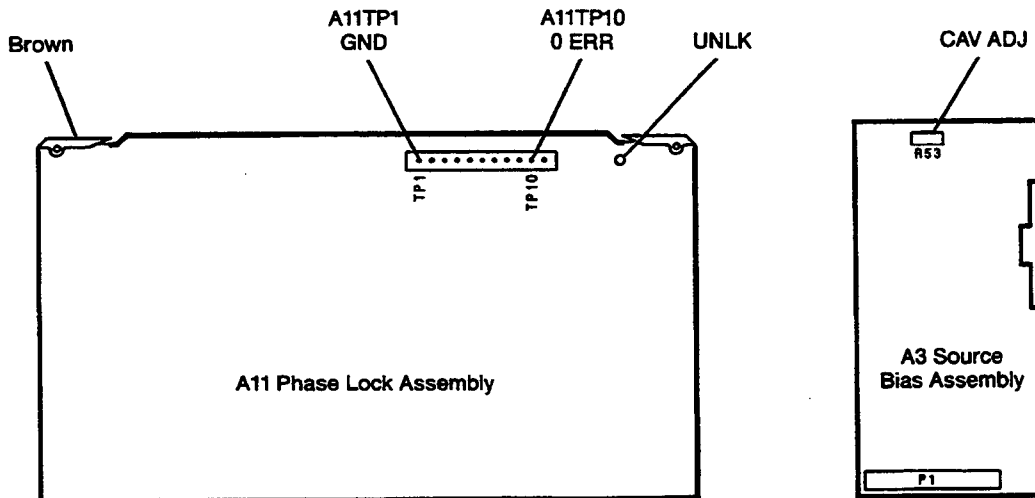
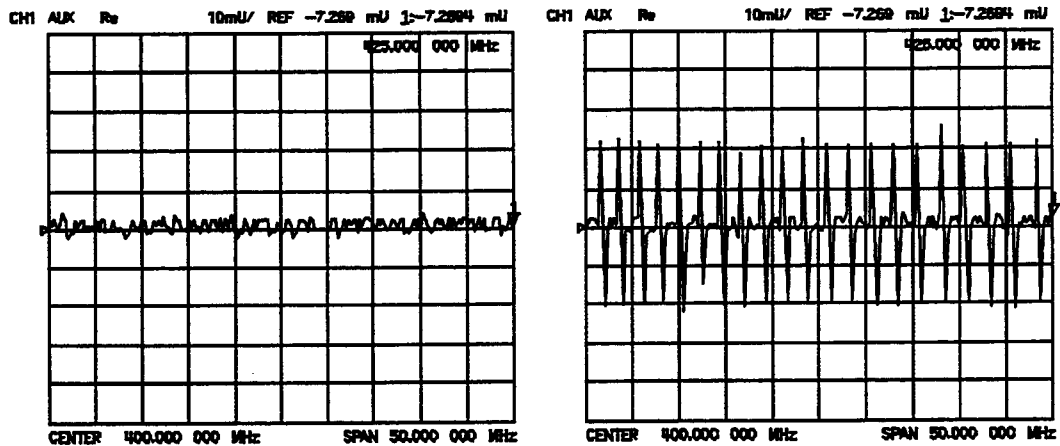

Figure 13. A11 Test Point and A3 CAV ADJ Locations
Figure 14. *Display of Acceptable versus Excessive Spikes*
1. Connect the RF cable from RF OUT to input R. Mate the adapter to the BNC cable and connect the BNC connector end to AUX INPUT on the rear panel. Connect the BNC center conductor alligator-clip to A11TP10 (labeled D ERR); the shield clip to A11TP1 (GND), shown in Figure 13.
- "Spikes" are not visible on CRT (see Figure 14): no adjustment is necessary.
- Spikes are excessive (see Figure 14): adjust the CAV ADJ potentiometer (see Figure 13) on the A3 source bias assembly to eliminate the spikes.